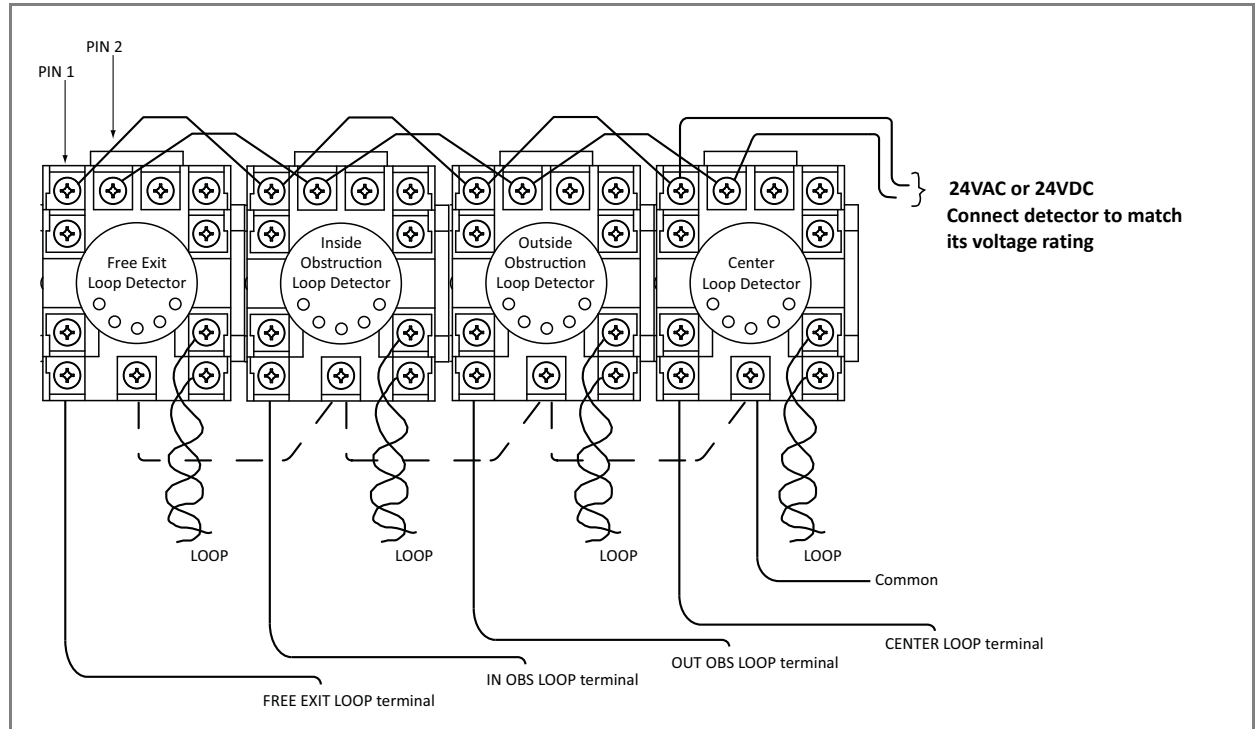

Figure 4-4. Standard 11-Pin Box Type Vehicle Detector
1. If there is sufficient space, install the sockets in the control box; if not, then install them in a separate external housing. Figure 4-4 is for general reference only.
4. If multiple detectors are used, route the power wires and common wire from socket to socket (daisy-chaining) rather than individually running each wire to the same location. See Figure 4-4. The only wires that are separate are the output wire to the Smart DC Controller and the detector loop input wires.